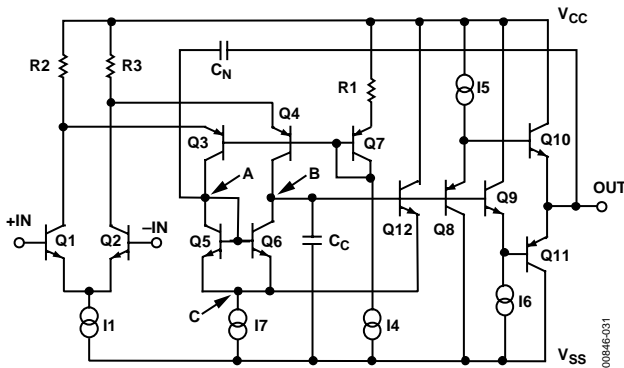
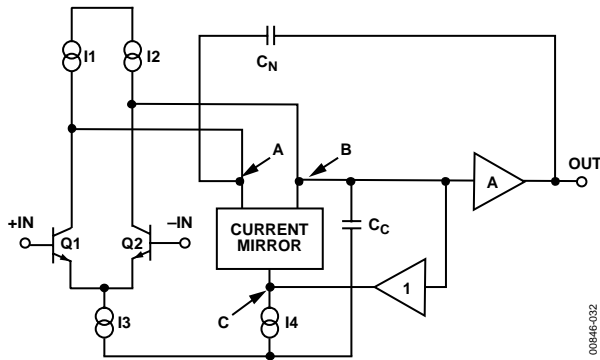

Figure 31. AD797 Simplified Schematic
Figure 32. AD797 Block Diagram
*See Figure 32
The architecture of the AD797 was developed to overcome inherent limitations in previous amplifier designs. Previous precision amplifiers used three stages to ensure high open-loop gain (Figure 30) at the expense of additional frequency compensation components. Slew rate and settling performance are usually compromised, and dynamic performance is not adequate beyond audio frequencies. As can be seen in Figure 30, the first stage gain is rolled off at high frequencies by the compensation network. Second stage noise and distortion then appears at the input and degrade performance. The AD797 on the other hand, uses a single ultrahigh gain stage to achieve dc as well as dynamic precision. As shown in the simplified schematic (Figure 31), Node A, Node B, and Node C all track in voltage forcing the operating points of all pairs of devices in the signal path to match. By exploiting the inherent matching of devices fabricated on the same IC chip, high open-loop gain, CMRR, PSRR, and low V_{OS} are all guaranteed by pairwise device *matching* (that is, NPN to NPN and PNP to PNP), and not absolute parameter such as beta and early voltage.
Another unique feature of this circuit is that the addition of a single capacitor, C_N (Figure 31), enables cancellation of distortion due to the output stage. This can best be explained by referring to a simplified representation of the AD797 using idealized blocks for the different circuit elements (Figure 32).